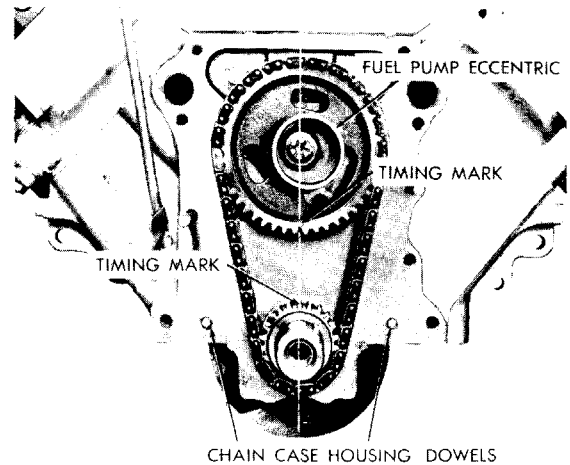

Fig. 9—Timing Marks
(6) Check valve timing (Fig. 9).
(7) Install camshaft bolt and tighten to 35 foot-pounds torque and install crankshaft oil slinger.
(8) Install chain cover with new gaskets and tighten bolts to 15 foot-pounds torque.
(9) Install fuel pump and fuel lines.
(10) Install crankshaft pulley, washer and bolt. Tighten bolt to 135 foot-pounds torque.